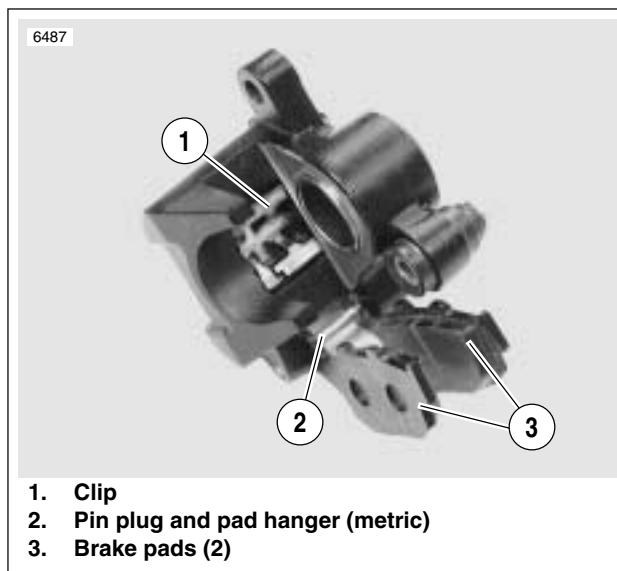

Figure 2-58. Brake Pads
2. See Figure 2-58. Remove spring clip (1).
1. See Figure 2-58. Place clip (1) inside caliper body as shown.
3. See Figure 2-58. Install brake pads (3) using pad hanger and pin plug (2).